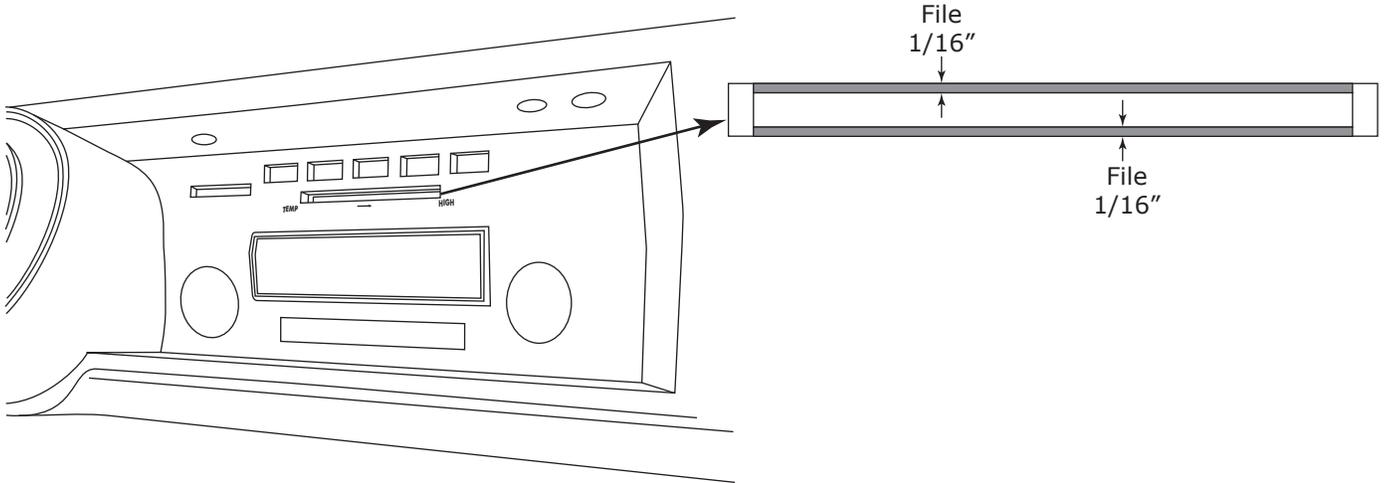

Figure 12
1. File 1/16" from top and bottom of control panel lever slot on instrument panel as shown in Figure 12, below.